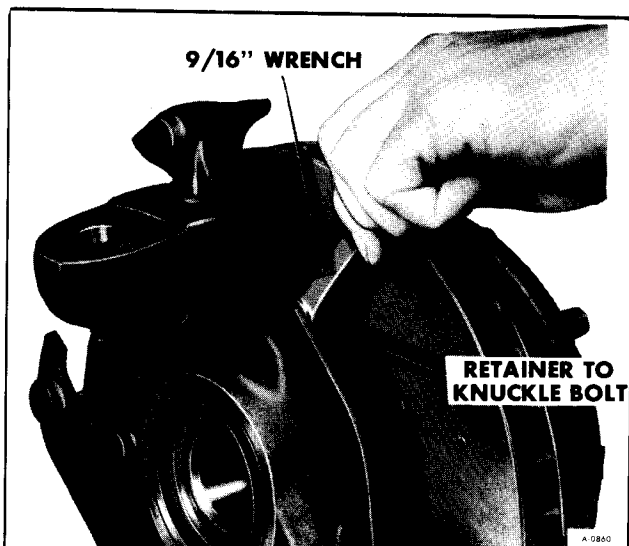

Figure 17—Removing Retainer from Knuckle
8. Loosen uniformly and remove the three bolts securing the retainer to the knuckle (figure 17).